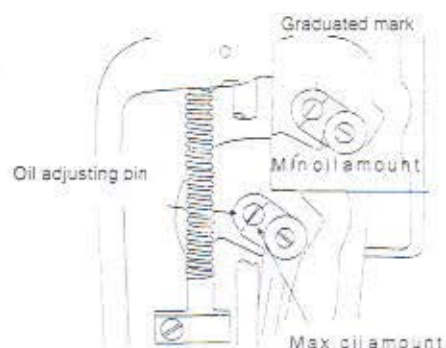

Fig.4
6. How to regulate oil amount by means of manipulating elements on the face plate (Fig4)